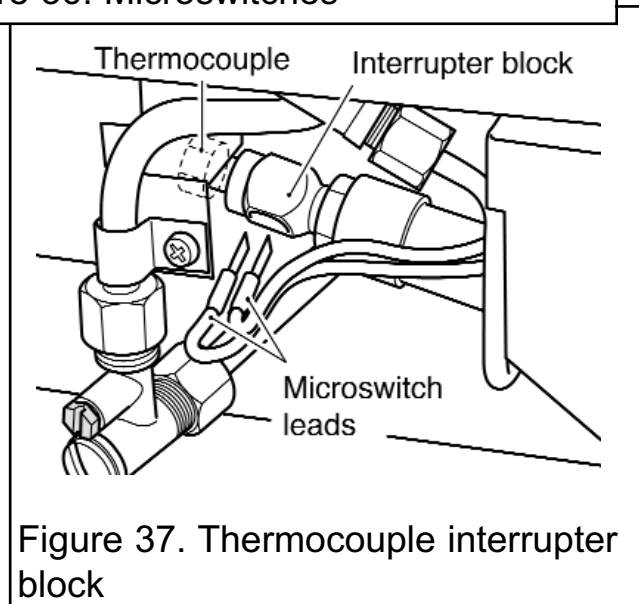

Figure 37. Thermocouple interrupter block
2. Loosen the thermocouple nut to free the microswitch leads and pull the leads clear of the thermocouple interrupter block (See figure 37).
17.13 To remove the thermocouple interrupter block (See figure 37).